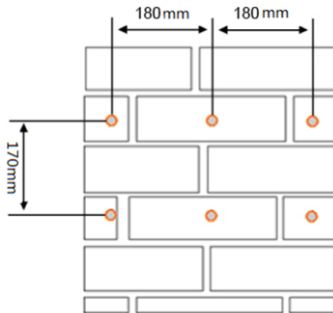

Figure5-3 Installation holes of JNP
Step1:Drill holes in the selected installation position according to the size and shape of sheet metal for installation of accessories. When drilling, please drill at least two horizontal holes and two vertical holes as Figure5-3. Suggesting diameter of hole is  $8+1/-0$ , the depth is  $60+5/-0$ .